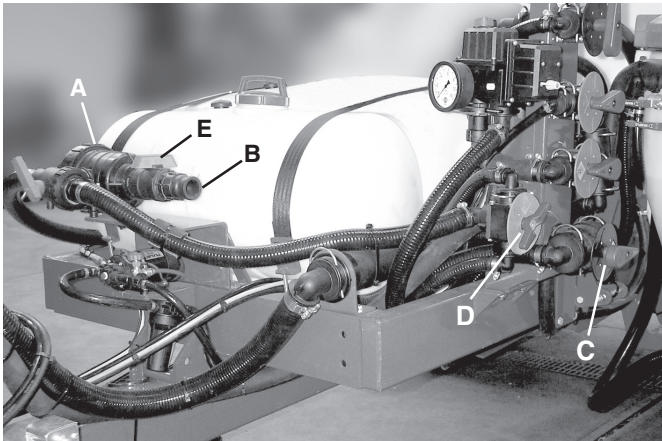

Fig 25
This system allows the operator to connect, via a 1½" camlock (B Fig 25) a hose from, eg. a fire fighter or overhead fill tank, and fill the main tank.
- 1 Remove the cover from the camlock fitting on valve (E Fig 25) at the front of the Fill Filter (A Fig 25).
- 2 Connect the filling hose from the water supply to the camlock (B Fig 25).
- 3 During filling procedure keep Suction Valve (C Fig 25) turned OFF.
- 5 To select which tank to fill, turn handle on the blue FILL valve (D Fig 25) to align with the icon indicating the required tank (Main tank or Flush tank).
- 6 Open the valve at the filling filter (E Fig 25).